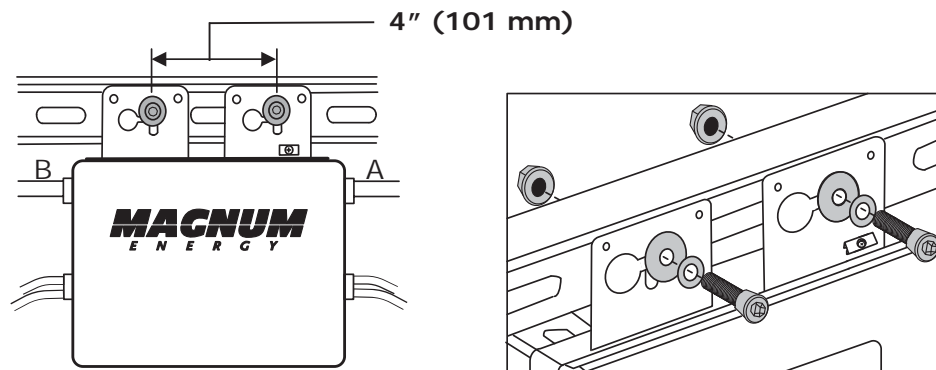

Figure 2, Attaching MicroGT 500 Inverters
3. Attach the MicroGT inverters to the racking, or to the PV module frame (Figure 2).